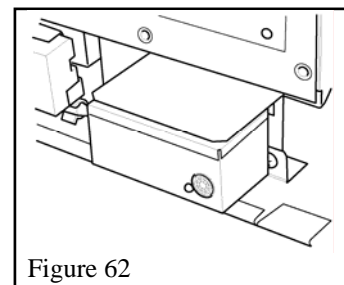

Figure 62
5. *Unless fitting wall switch,* place the battery box or remote control receiver on the "Velcro" pad in front of the battery shield. See figure 62.
Place the remote control receiver on the “Velcro” pad in front of the battery shield. See figure 62.